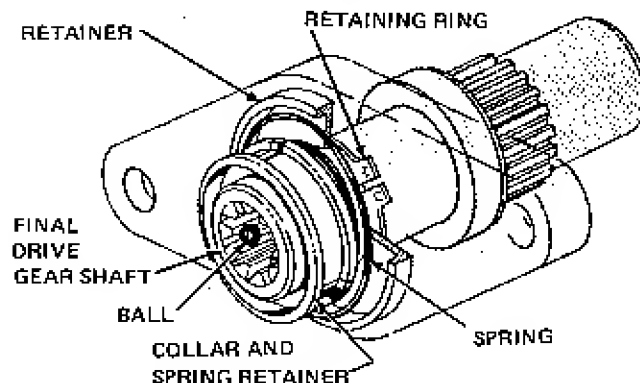

Figure 12. Locking Collar Installation
- k. Using Tru-arc pliers, install retaining ring on final gear assembly shaft (Figure 12). Install retainer and spring on shaft, large coil of spring in concave side of retainer.